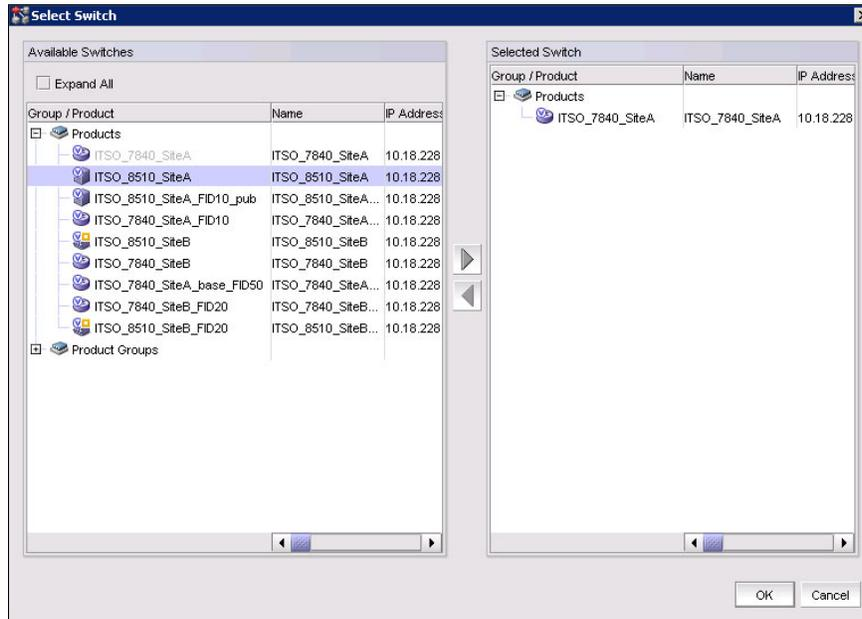

Figure 7-15 Select the switch for flow creation
7. Select **Target Switch** which the flow is created on (Figure 7-15).